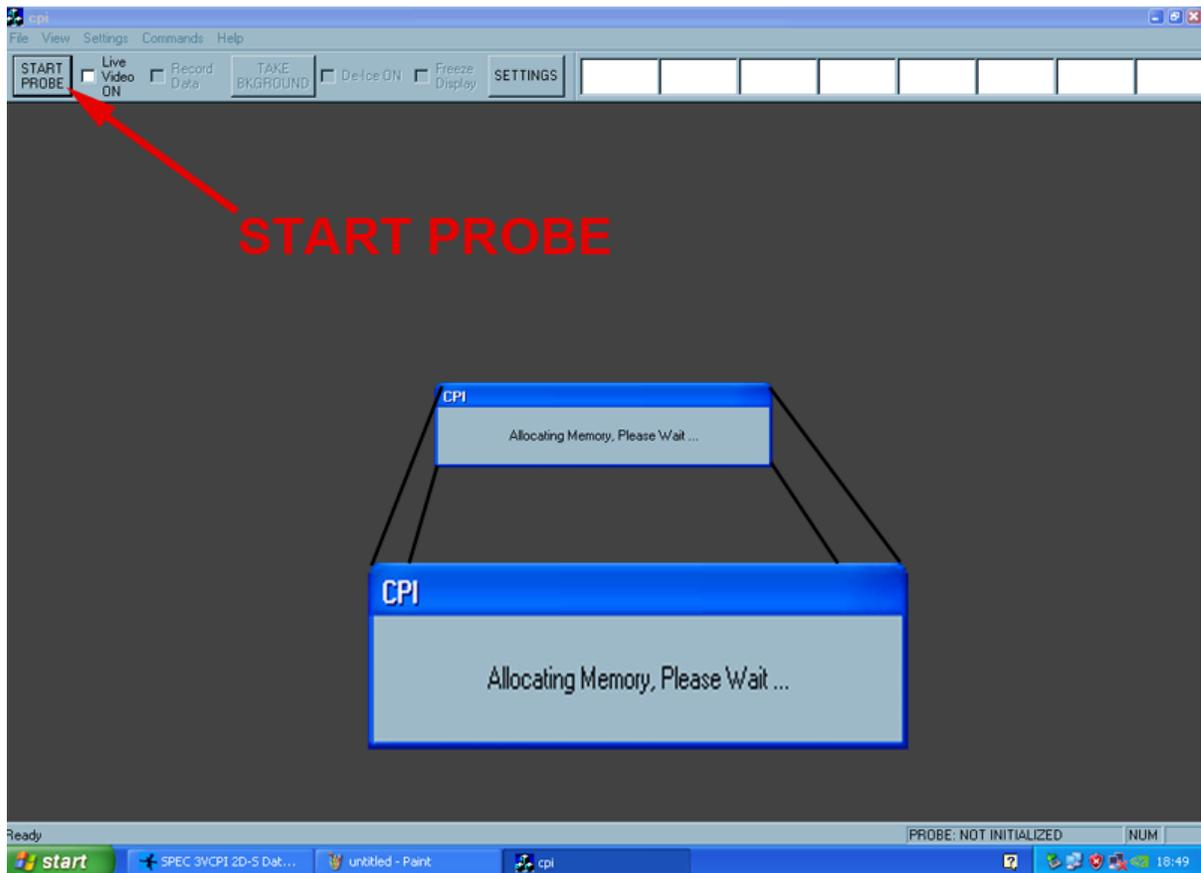

Figure 2.3.3. CPI GUI screen while it is allocating memory.
5. Single click the Start Probe button on the left side on the CPI GUI window² (see **Figure 2.3.3**).
6. In the CPI GUI, you should see an “Allocating Memory” message as shown in **Figure 2.3.3**. This message indicates that the CPI GUI is allocating memory locally in the DAS computer. It is not yet trying to communicate with the probe (sensor head). Wait about forty seconds.